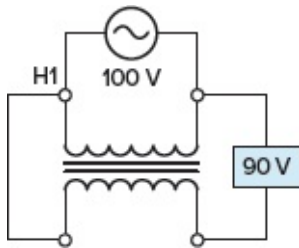

Figure 3-41 Circuit for review question 2.
2. A polarity test is being made on the transformer shown in Figure 3-41.